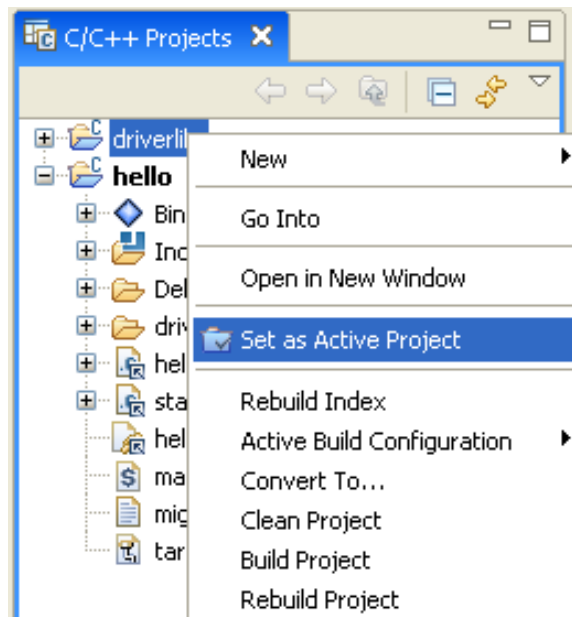

Figure 22. Setting a Project as an Active Project
2. The driverlib project will be set as the Active Project. If not, then it can be manually set as an active project in the project explorer window pane by right clicking on driverlib project and selecting Set as Active Project option as shown in Figure 22.